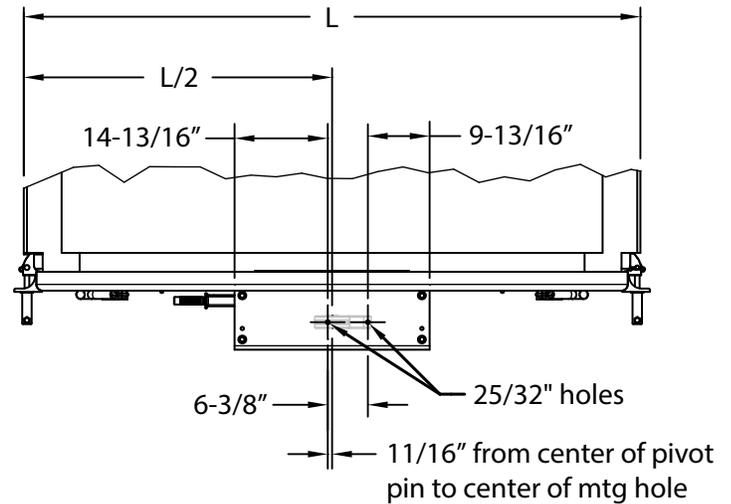

Figure 31-1
- 1) **Figure 31-1.** Drill two $25/32$ " holes for $3/4$ " bolts in the top of the bracket so that the pivot pin on the ForceLink is in the center of the trailer. The distance between the holes needs to be $6-3/8$ ".